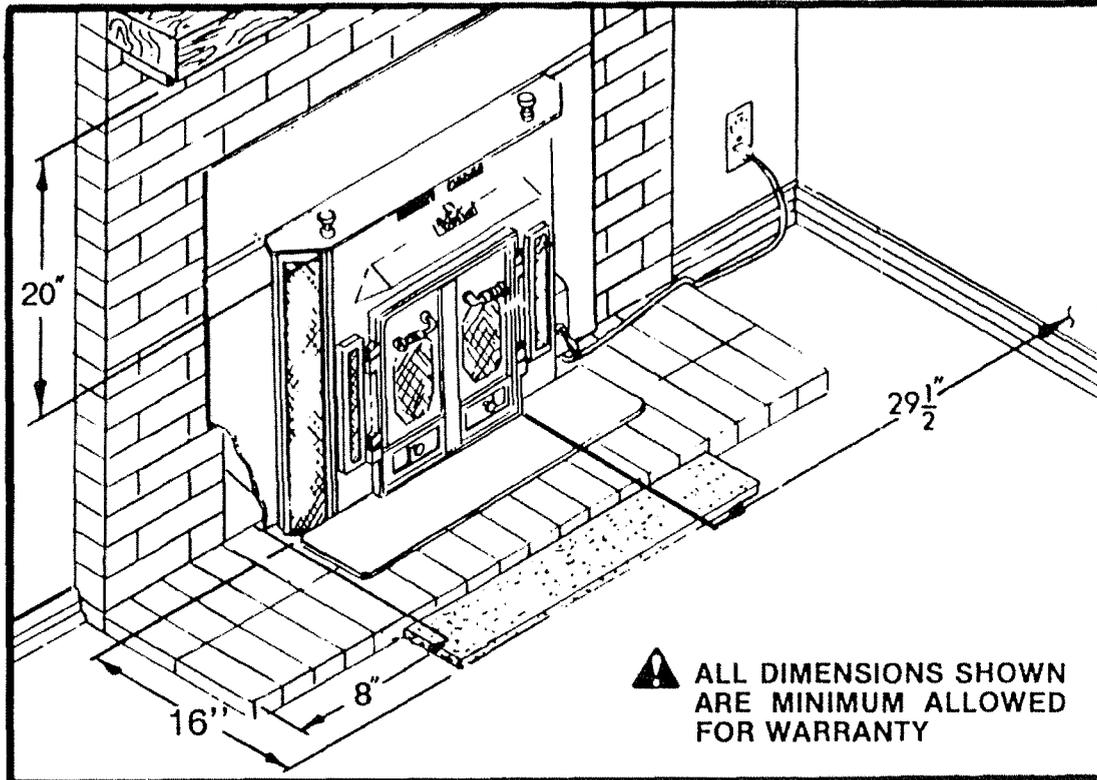

FIGURE 1
3. There must be a minimum of 8" between the side of the masonry fireplace opening and any combustible materials, or 16" between the **BUCK STOVE** firebox opening and any combustible materials. If there is not 16" from the front of the **BUCK STOVE** firebox opening and the front of the masonry hearth, a floor protector must be used in front of the hearth to protect combustible materials. The floor protector is to be of non-combustible, inorganic material equal to 3/8" thick millboard having a thermal conductivity of $K=0.84$ BTU/F²H⁰F inches and must measure 38" wide. The minimum clearances for the fireplace model are shown in Figure 1.